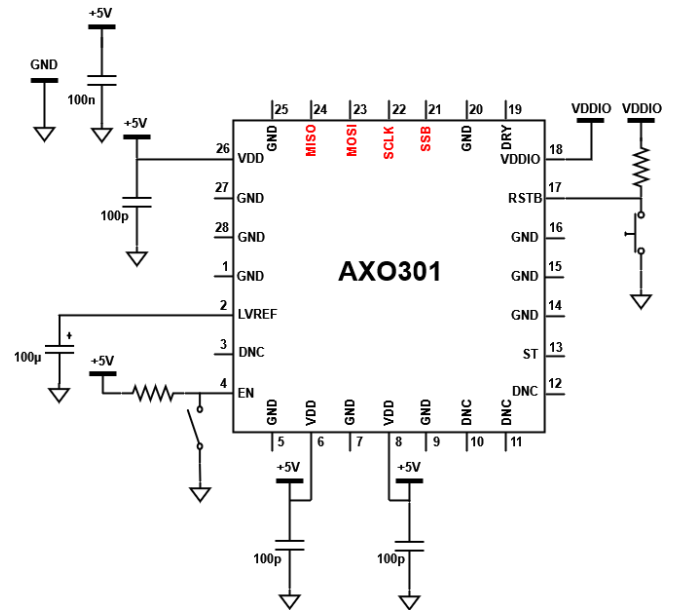

Figure 14: Recommended Application Schematic
- All capacitances of Figure 14 should be placed as close as possible to their corresponding pins, except the 100nF capacitance between VDD and GND, which should be as close as possible to the board's supply input.